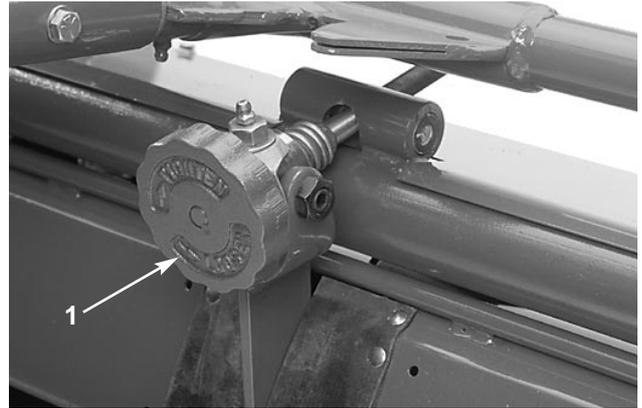
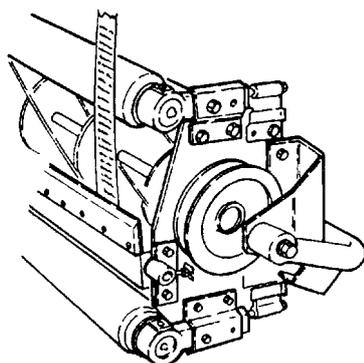

Figure 45
Figure 46
1. Make sure the reel contact is removed by turning the bedknife adjustment knob counterclockwise (Fig. 45). Tip the cutting unit to gain access to the reel and bedknife (Fig. 46).
4. Loosen the (2) carriage bolts on the bedbar adjuster (Fig. 46).